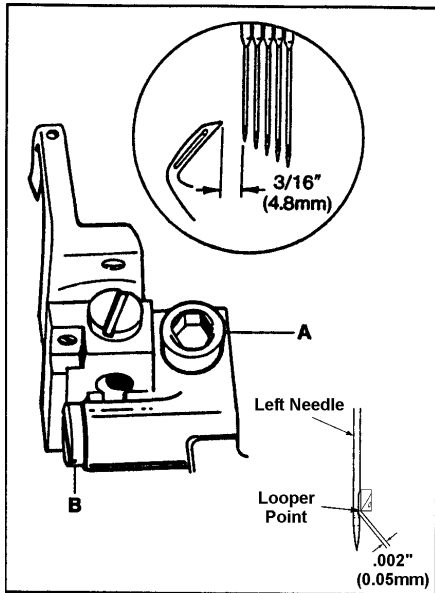

FIG. 15
Turn the handwheel in operating direction until the looper has traveled fully to the left. Loosen screw (A, Fig. 15) and move the looper holder to the right or left until the distance from the point of the looper to the center of the first (left) needle is  $3/16$ " (4.8mm) (Looper gauge 21225F3/16 can be used for a more accurate measurement). Clearance between the looper point and the scarf of the needle must not exceed  $.002$ " (0.05mm). Turn screw (B) until the  $.002$ " (0.05mm) dimension is achieved. Tighten screw (A).